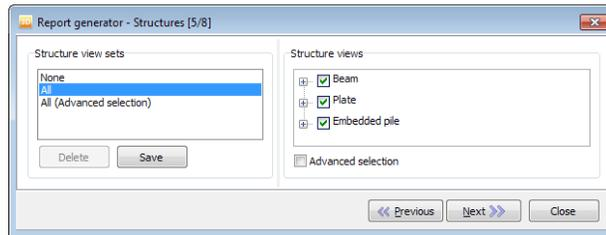

Figure 279: Report generator - Structures
**Step 5:** Select structure view sets to be displayed in the report are selected. Note that the selection can be saved as a new set besides *All* and *None* sets (Figure 279: Report generator - Structures (on page 426)).